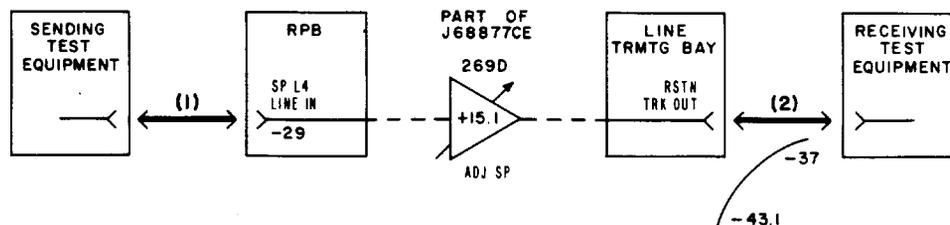

Fig. 5—Transmitting Restoration Trunk for Spare L4 Line
4	Make patches designated (1) and (2) in Fig. 5.